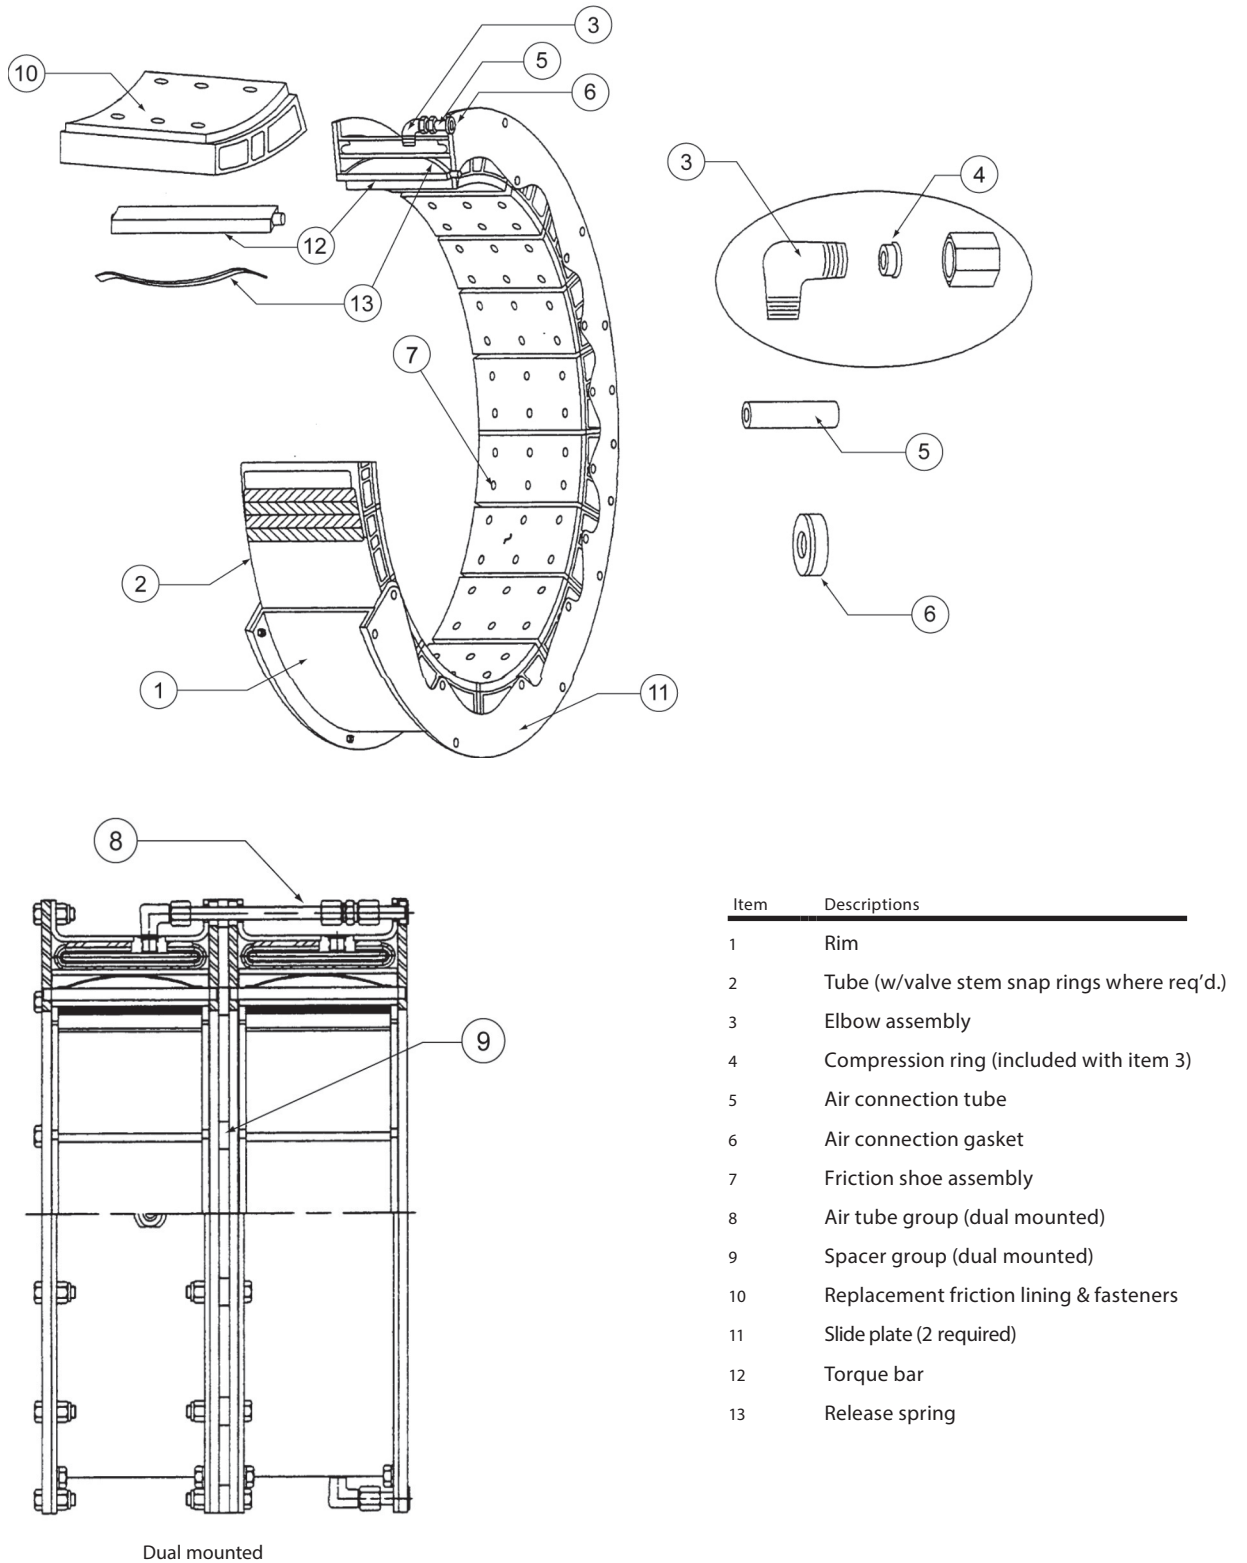

Figure 1. Component parts for Airflex type VC element
- 1.2.1 Referring to Figures 1 and 2, the neoprene and cord actuating tube is contained within a steel rim which is drilled for mounting to the driving component. As air pressure is applied to the air actuating tube, the tube inflates, forcing the friction shoe assemblies uniformly against the drum, which is attached to the driven component. The friction shoe assemblies, which consist of friction blocks attached to aluminum backing plates, are guided by torque bars which are secured to side plates. The torque flow is from the driving shaft, through the element mounting component (typically an iron spider), through the rim/side plate structure, through the torque bars to the backing plates and friction material, where the torque is transmitted through the friction couple to the components mounted on the driven shaft (clutch drum and drum mounting component). As actuating air is exhausted, release springs and centrifugal force assure positive disengagement.